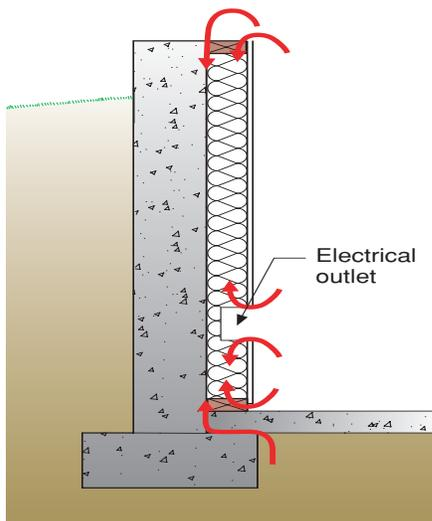

Figure 27
**Below-Grade Walls** The main problem with below grade walls comes during the summer when warm moist air comes in contact with basement cold surfaces (see **Figure 27**). Basement walls should be insulated with non-water sensitive insulation that prevents interior air from contacting cold basement surfaces. The best insulations to use are foam based and vapor semi-permeable. Vapor semi-permeable materials allow the basement wall assemblies to dry to the interior. No interior vapor barriers should be installed in basements – ever – because they trap moisture inside the assemblies.